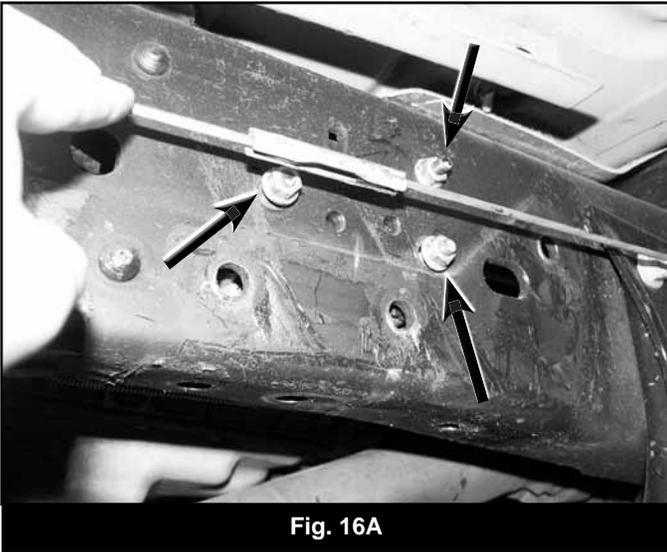
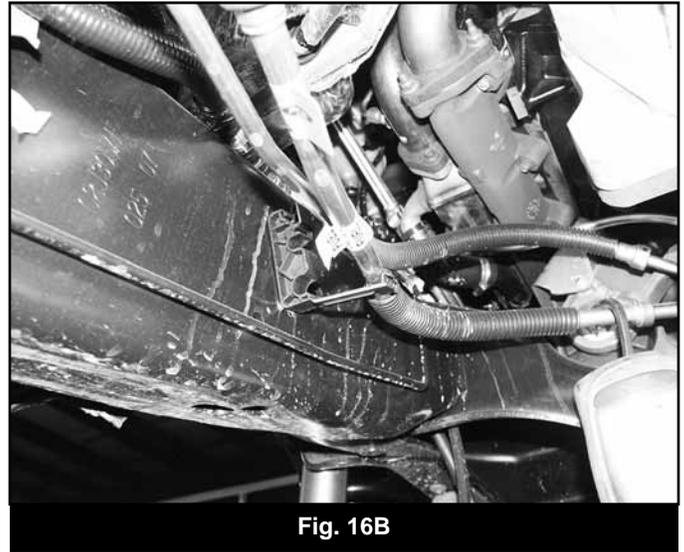

Fig. 16A
Fig. 16B
39. If equipped, remove the 3 nuts mounting the fuel module to the inside of the driver's side frame rail above the radius arm bracket (Fig 16A). Remove the fuel lines from the clip just ahead of the fuel module on the inside of the frame and pull the module in, away from the frame (Fig 16B). Retain hardware.